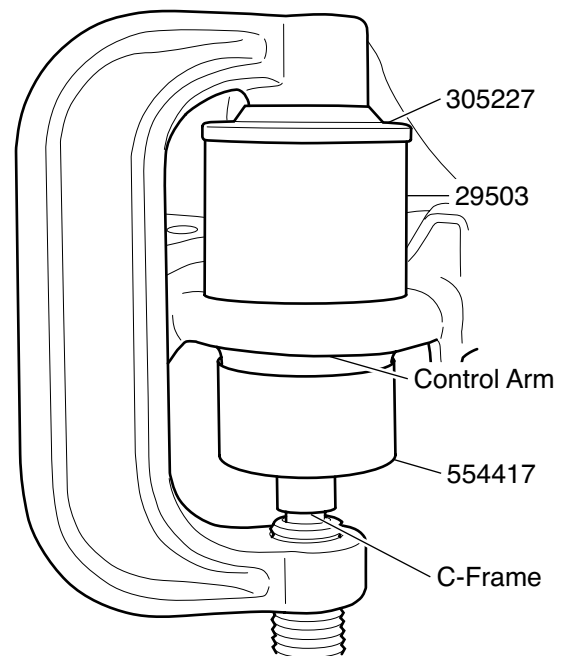

Figure 2. Ball Joint Installation
3. Position 29503 and 305227 on the ball joint as shown in Figure 2.